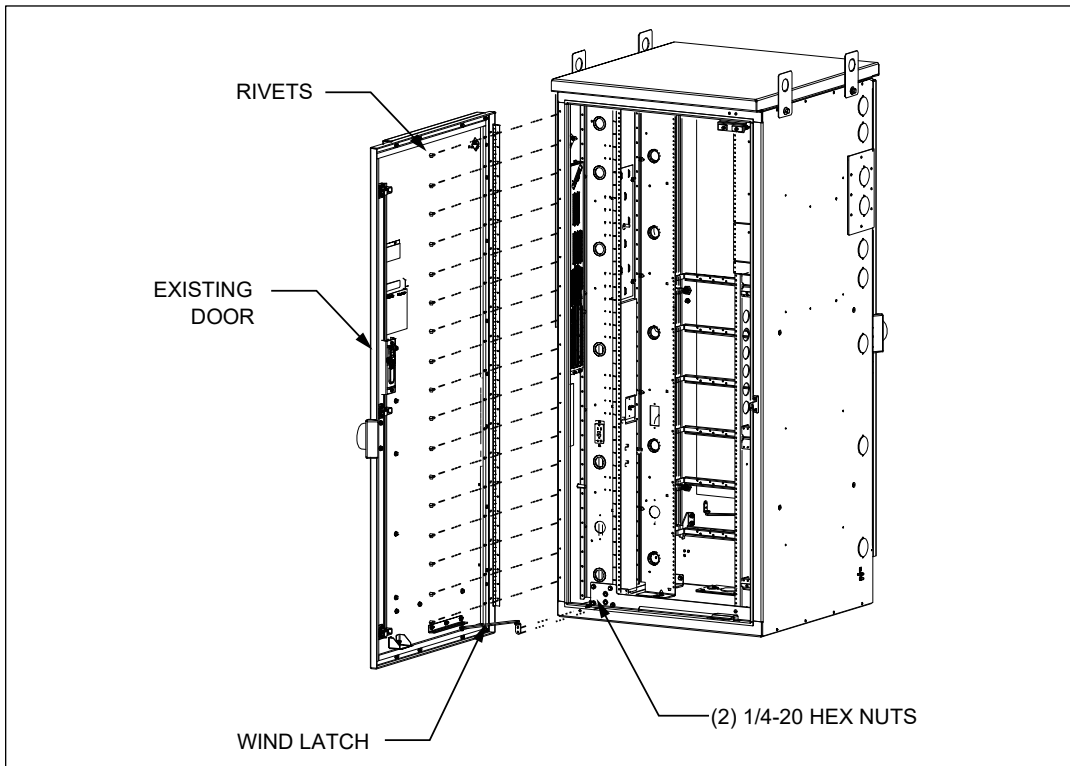

Figure 3 Remove Existing Door
1. Lift the kit into position as shown in Figure 3. Use local safety practice for lifting the door. Charles recommends using two people to support the weight and a third person to maneuver the hinge into position.